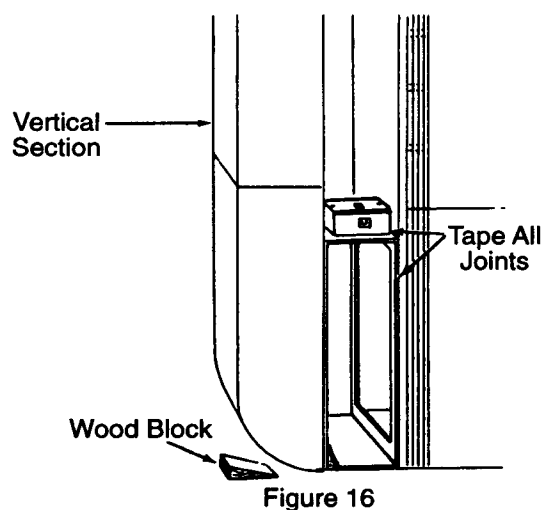

Figure 16
5. Connect the vertical duct section to the elbow. Wedge a wood block between floor and elbow for support (Figure 16).